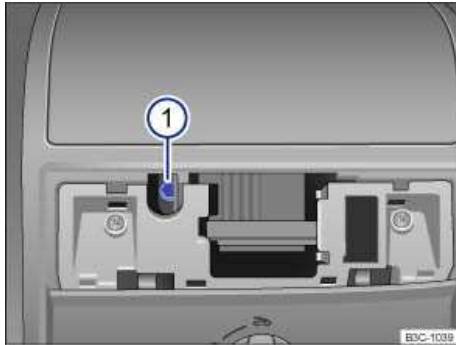

Fig. 202 Hexagonal head screw for closing the power sunroof.
- Insert a commercially available 1/6 in (4 mm) Allen wrench7 into the hexagonal head screw ⇒ fig. 202 \(1\).